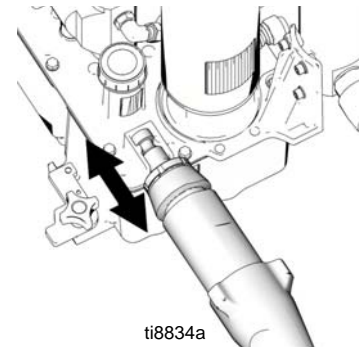

FIG. 20
- 1 (Fig. 20) If needed, place pump rod in adjustment casting and pull pump to lengthen rod.